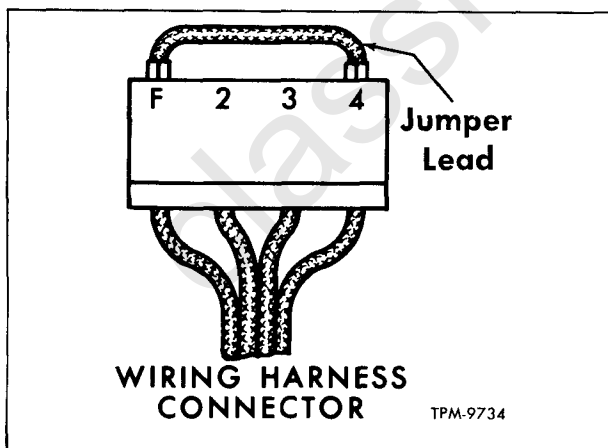

Figure 11—Checking Indicator Lamp Wiring
c. If indicator lamp comes on when No. 4 socket in wiring harness connector is grounded (fig. 10), connect jumper lead between wiring harness connector "F" terminal and No. 4 terminal as shown in figure 11.
- (1) If light comes on, an open circuit exists within the regulator. Refer to regulator tests later.
- (2) If light does not come on, leave jumper lead connected as shown in figure 11 and connect a long jumper lead from generator field "F" terminal to ground. If lamp does not come on, "F" terminal lead is open circuited. If lamp does come on, generator field is open circuited.
- b. If the indicator lamp does come on, connect a jumper lead between wiring harness connector "F" terminal and No. 4 terminal (fig. 11). If the indicator lamp comes on, there is an open circuit within the regulator. If the indicator lamp does not come on, there is either an open in the field lead between the regulator and generator or in the generator field coil.